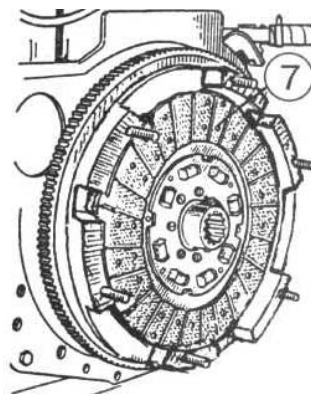

Figure 4.14
f) remove second driven disk 7 (Figure 4.14);